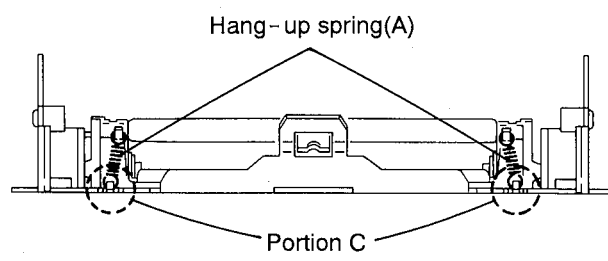

Fig. 4-16
6. Remove only the portion C of two backup springs (A) behind the CD mechanism assembly (See Fig. 4-16).